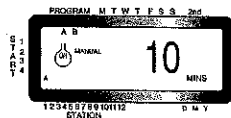

Figure 11: Semi-Automatic Watering Entered for A and B Programs, All Stations
*Note: Water durations assigned to station 1 in program A will water first, then move to station 1 in program B before advancing to the second station and will continue alternating. Only those stations assigned a watering duration will water when using the manual or semi-automatic mode [See Figure 11].*